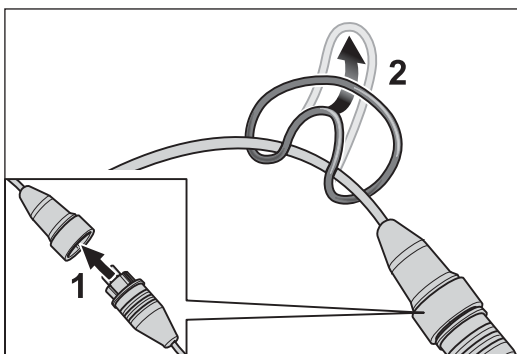
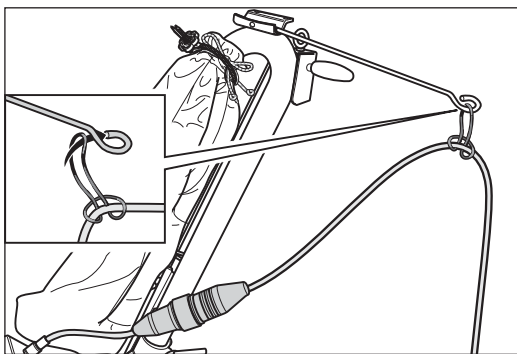

Fig. 20 Insert the plug of the motor cable in the coupler of the extension cable (1). Fasten the strain relief ring on the extension cable (2).
Fig. 21 Mount the strain relief ring on the cable support.
- 2 Insert the plug of the motor cable in the coupler of the extension cable (Fig. 20, 1).
- 3 Fasten the strain relief ring on the extension cable (Fig. 20, 2) and mount the strain relief ring on the cable support (Fig. 21).